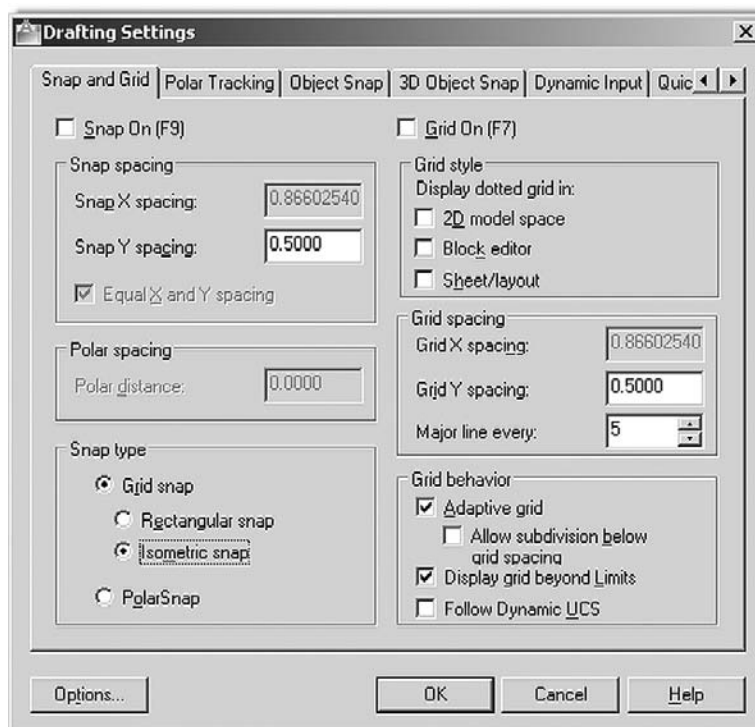

FIGURE 20.3
Step 2. From the cascading menu select: **Tools**→**Drafting Settings...** and the dialog box seen in Figure 20.3 appears.
- Step 3.** Pick the Snap and Grid tab, go to the Snap type category (lower left), pick Isometric snap, and press OK. Figure 20.3 is a screen shot of the Drafting Settings dialog box with Isometric snap selected.